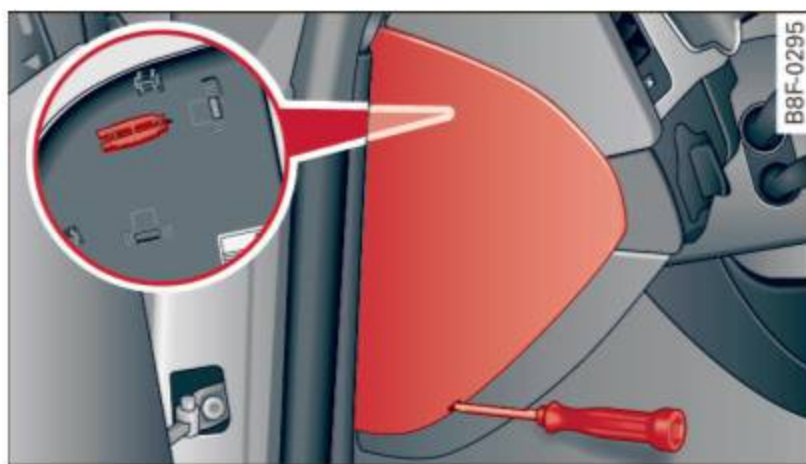

Fig. 183 Left cockpit: fuse panel cover
- ▶ Remove the appropriate cover ⇒ *fig. 183* or ⇒ *page 205, fig. 157*.
- ▶ Remove the clamp from the rear side of the fuse cover ⇒ *fig. 183*.